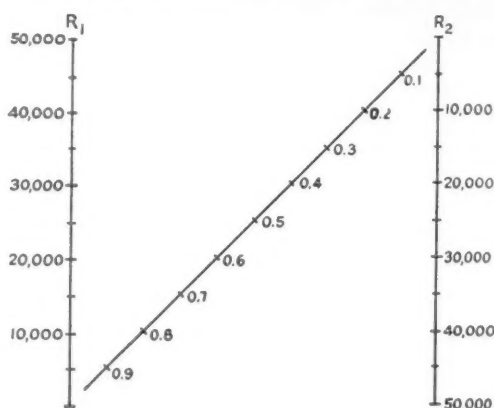
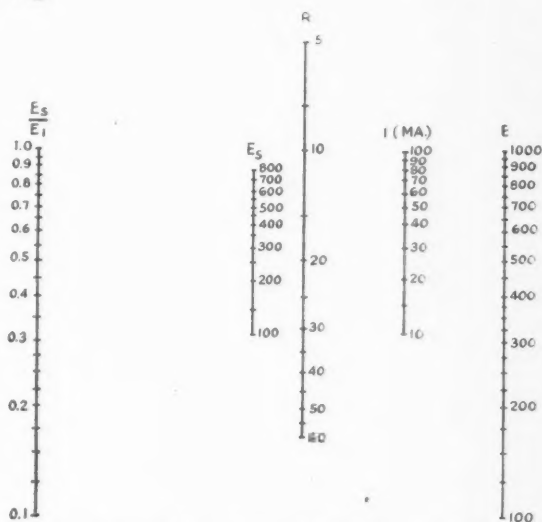

Fig. 2—Graph showing the proportion of voltage across R_2 as a function of R_1 and R_2 (refer to Fig. 1).
Fig. 3 — Nomograph for determining voltage and current relationships in a voltage-regulating circuit.
Figs. 2 and 3 are nomographs to provide a ready solution of Equations (1) and (2). In Fig. 2, the values of R_1 and R_2 are aligned,
starting voltage, is found. This value then is entered in Fig. 3 and combined with the value of E_1 on the E scale to find the starting voltage, E_s (on the E scale) is applied to R_2 and the current, I , noted from the chart. Then $E_1 - E_s$ (again on the E scale) is applied to the value of R_1 . This current should be 10 to 35 ma. greater than the current previously determined, or 20 to 70 ma. for two tubes in parallel, and so forth. If either R_1 or R_2 is unknown, it will be necessary to use Fig. 3 to find the mini-
this value with the known resistance in Fig. 2, following with a test for currents in Fig. 3.